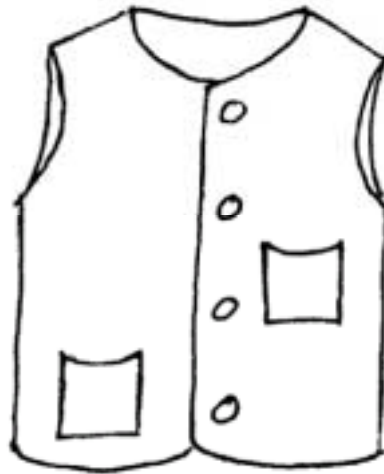

Fig. 1
- (d)** The two patch pockets are applied, as shown in Fig. 1.